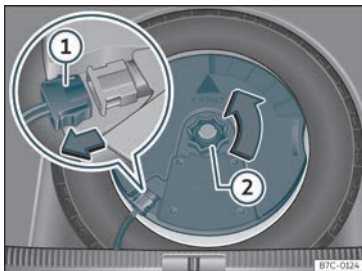

Fig. 268 In the luggage compartment: remove the subwoofer.
- Disconnect the *subwoofer* >>> Fig. 268 ①
- Turn the securing wheel in an anti-clockwise direction >>> Fig. 268 ②.